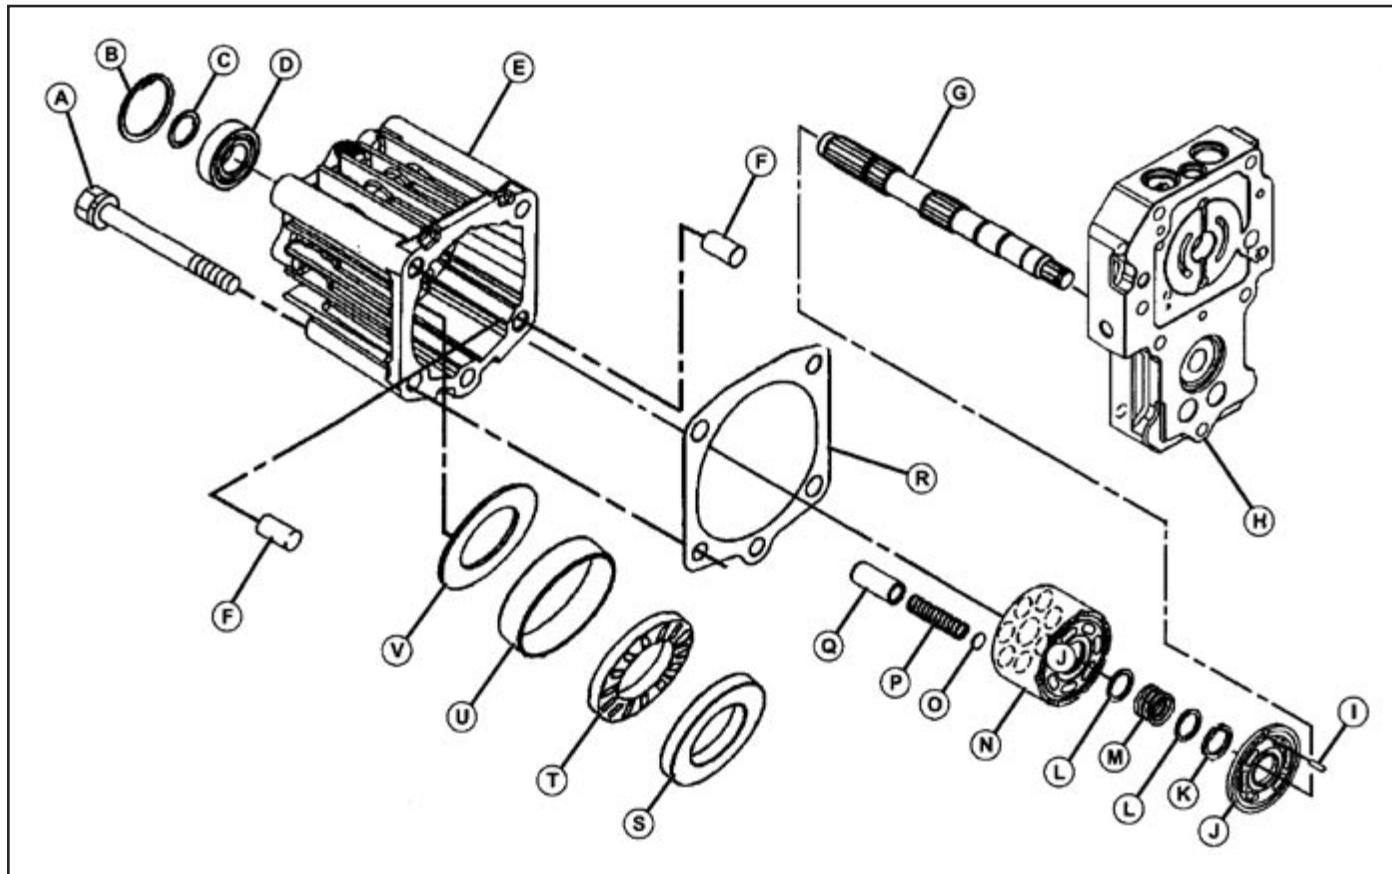

Fig. 56, Hydrostatic Transmission Motor Disassembly (4WD)
2. Remove two cap screws (A). (Fig. 56)
8. Thrust bearing (T) must rotate freely. (Fig. 56)
NOTE: *Thin thrust plate (V), bushing (U) and motor case (E) must be replaced as a set. (Fig. 56)*
9. Inspect thin thrust plate (V) for wear or damage. Replace as necessary.
10. Remove snap ring (B) to remove shaft assembly components.
11. Inspect bushing (U), thrust bearing (T) and shaft (G) for wear or damage. Replace if necessary. (Fig. 56)